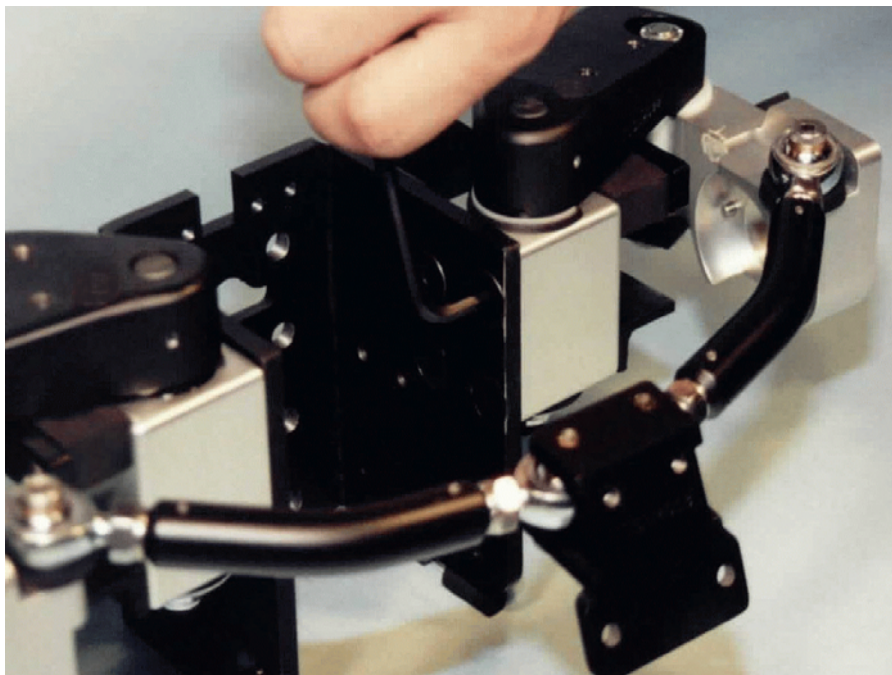

Figure 8.16- Shoulder assembly mounted on the UTS weldment
14. Attach the shoulder assembly to the upper thoracic spine weldment using four 5/16-24 x 3/4" FHSCS {3/16} on each side. The bolts are tightened from inside the Upper Thoracic Spine Weldment (T1SPW100). The shoulder mounting bolts are shown in **Figure 8.16**.